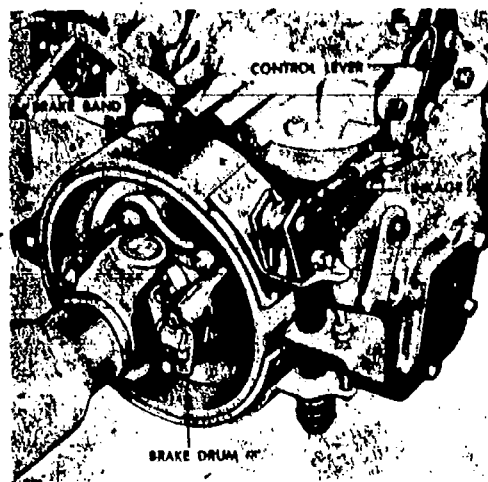

Fig 2-53. External-contracting parking brakes.
- (1) External-contracting brakes (fig 2-53). These are used for parking brakes on wheeled vehicles, for steering brakes on crawler equipment, and for controlling the speed on auxiliary equipment drive shafts. In operation, the brake band is tightened around a rotating drum by moving the brake lever. The brake band is made of flexible steel, shaped to fit the drum, and has a frictional lining riveted or bonded to its inner surface. External-contracting brakes are generally applied by mechanical linkages. They are often referred to as mechanical brakes.